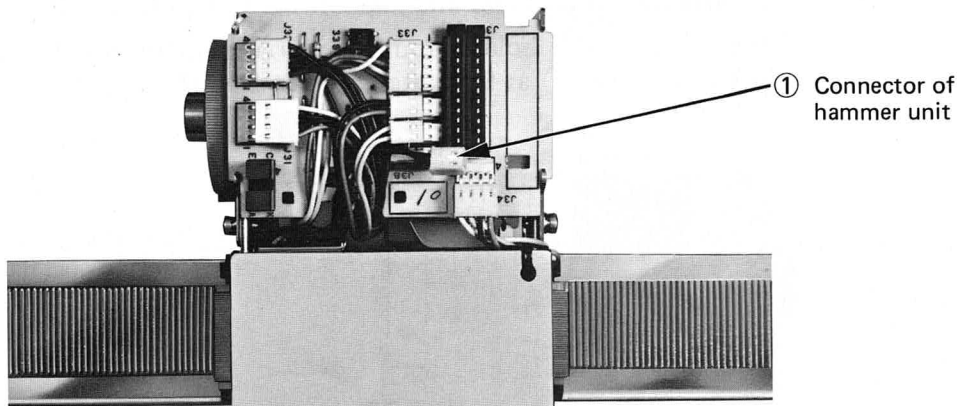

Fig. 5.21
Step 2. Remove the cable holder from the carriage circuit board, and disconnect connector ① at the hammer unit. (Fig. 5.21)